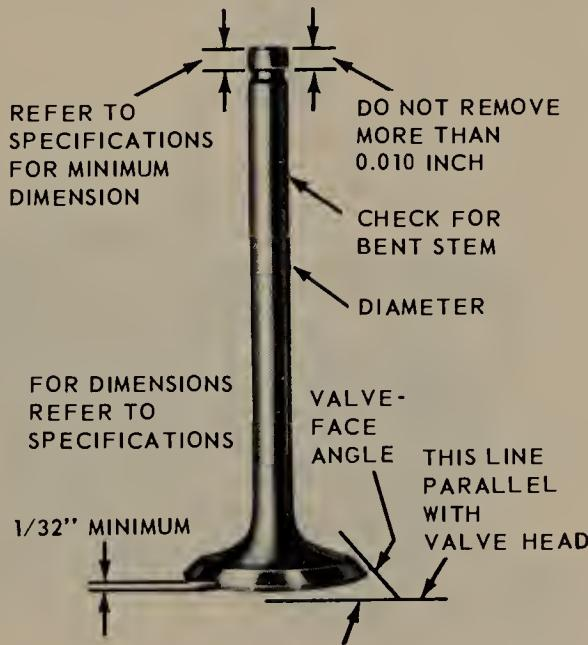

FIGURE 16.51 Valve parts to be checked. On the valve shown, the stem end is hardened and no more than about 0.010 in. should be removed. (Ford Motor Company.)
16.14 Servicing Valves. Figure 16.51 shows the various parts of the valve to be inspected. Check the valve seating faces for wear, burned spots, pits, cracks, and other signs of damage. If the face